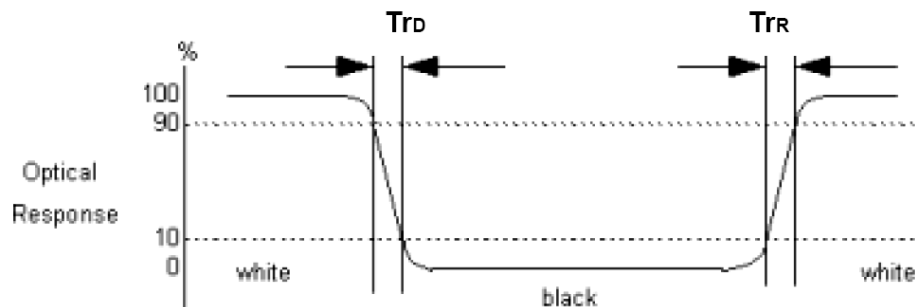

Fig.4-3 Response time
4. Response time is the time required for the display to transition from white(L255) to black(L0) (Decay Time, $T_{\text{D}} = T_{\text{f}}$) and from black(L0) to white(L255) (Rise Time, $T_{\text{R}} = T_{\text{r}}$). For additional information see Fig. 4-3.